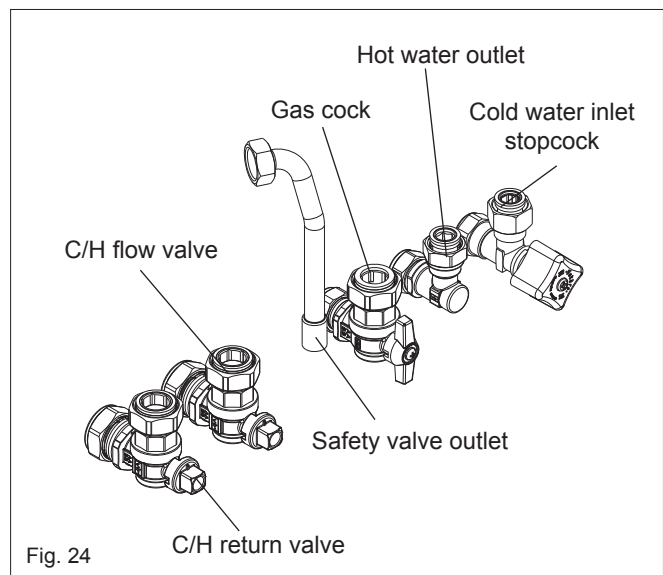

Fig. 24
4.6.1 GAS (fig. 24)
4.6.2 FLOW & RETURN (fig. 24)
4.6.3 COLD WATER INLET (fig. 24)
4.6.4 HOT WATER OUTLET (fig. 24)
4.6.5 SAFETY VALVE (fig. 24)